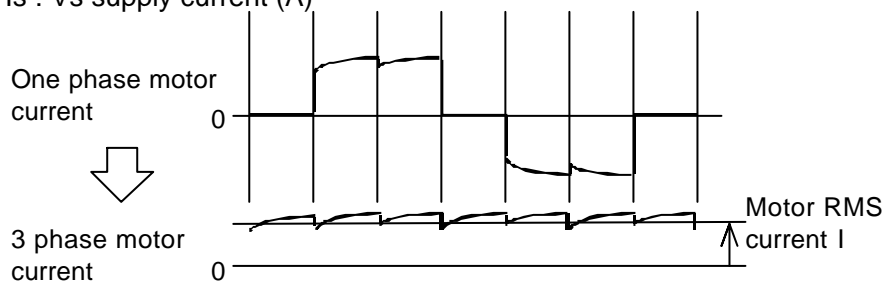

Fig. 10 Definition of motor RMS current I
I : Motor RMS current (A) (See Fig.10)